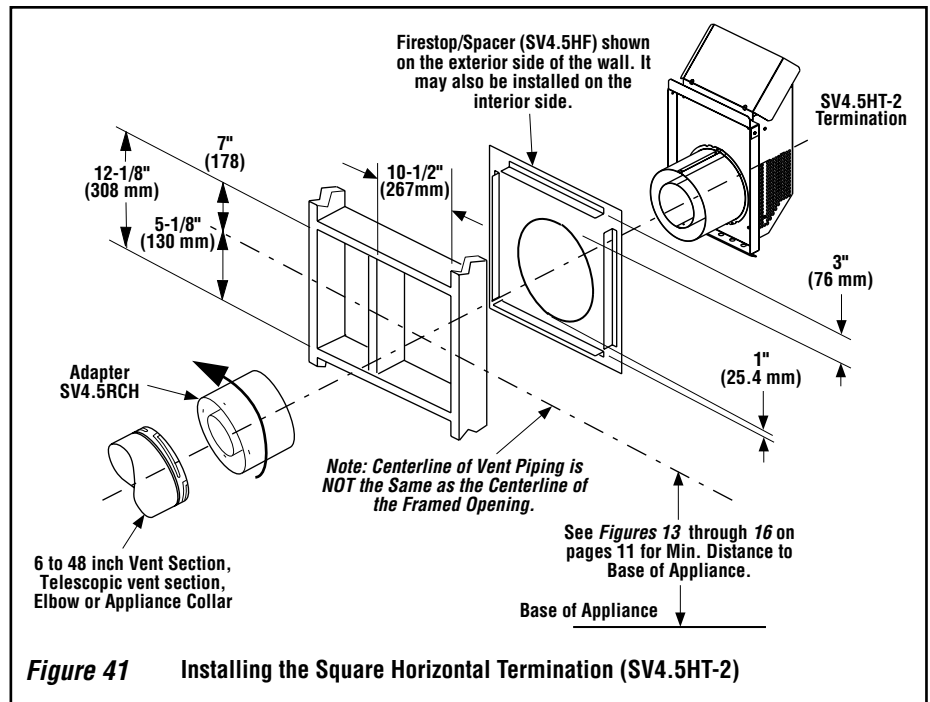

Figure 41 Installing the Square Horizontal Termination (SV4.5HT-2)
K. Attach termination adapter - Attach the adapter (adapter - SV4.5RCH - provided with the termination) to the vent section or telescoping vent section, elbow or appliance collar as shown in **Figure 41** in the same manner as any SV4.5 vent component (refer to **Step E**).
L. Install Firestop/Spacer at exterior wall - When using the **square** termination, install SV4.5HF (Secure Vent), SF4.5HF (Secure Flex) Firestop/Spacer over the opening at the exterior side of the framing, long side up, with the 3 inch spacer clearance at the top as shown in **Figure 41**, and nail into place.